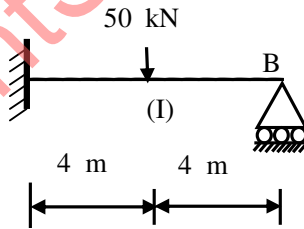

Fig.5 Q.5
- Q.5** For a beam shown in the fig.5, using finite element method, determine: **14**